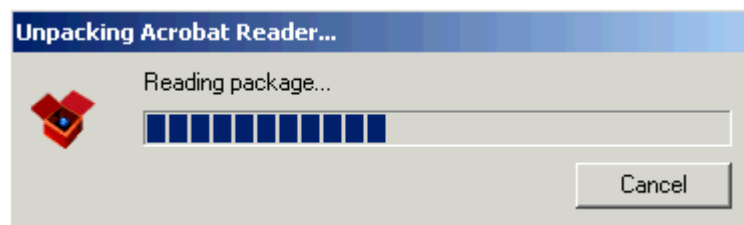

Figure 1.56 Unpack Acrobat Reader Progress Meter
2. Click the **Adobe Acrobat 5** menu item in the *Datamaxx Documentation* list to load Adobe Acrobat version 5.0. The *Unpacking Adobe Reader...* progress meter is displayed (see Figure 1.56).